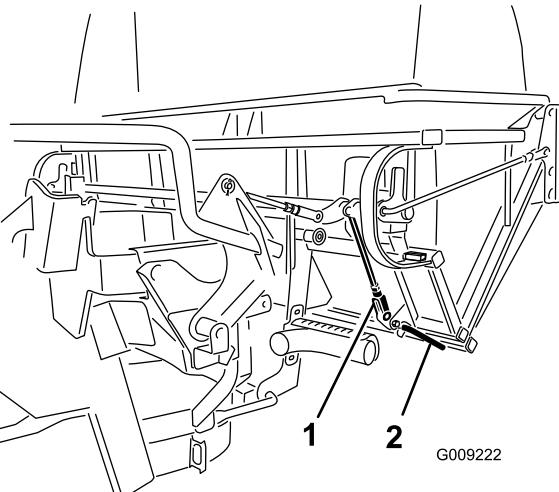

Figure 50
4. Ensure that the latches completely engage and contacts the latch rod welded to the door (Figure 50).